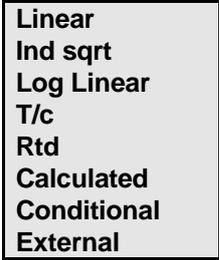

Figure 4-12 Point Types Menu Box
B. Programming Parameters - Selecting Industrial Square Root point types requires setting up parameters like regular Programming linear point types. From the Point Type menu (Figure 4-12) use the UP (↑) or DOWN (↓) Arrow Keys to highlight "Ind sqrt" and press **ENTER**. The Point Setup menu for Industrial Square Root will be displayed and may require programming of the following parameters.